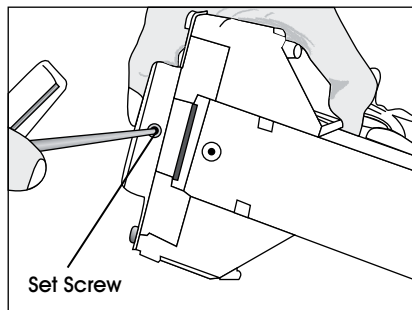

Figure 3
1. Loosen the set screw on the bottom with a 3 mm Allen wrench. (See Figure 3)